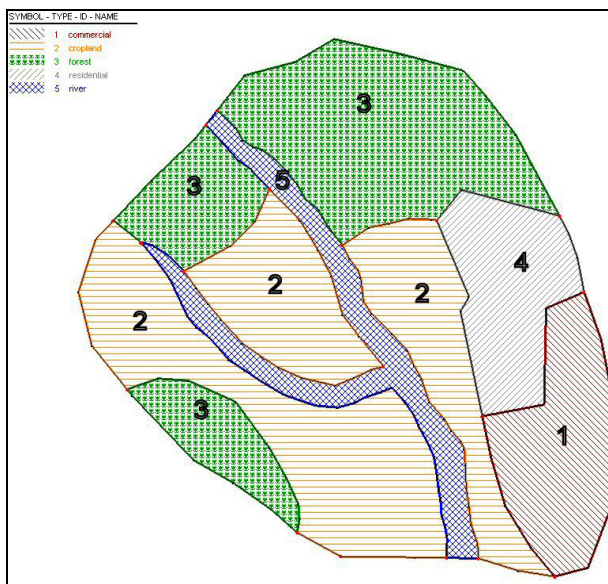

Figure 6 Materials used in HEC-RAS Simulation
12. Double-click on the polygon that defines the river area (see Figure 6).
15. Using Figure 6 as a guide, define material types for the remaining polygons (remember it is also possible to double-click on a polygon to bring up the attributes dialog).